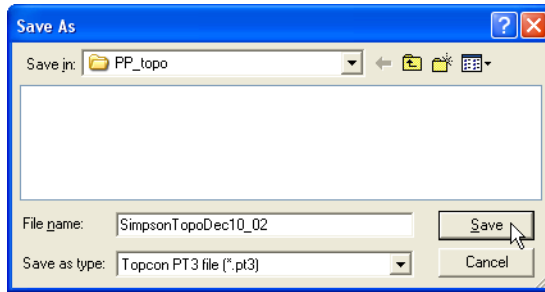

Figure 3-19. Save Point File
2. On the **Save As** dialog box, do one of the following (Figure 3-19 on page 3-17):